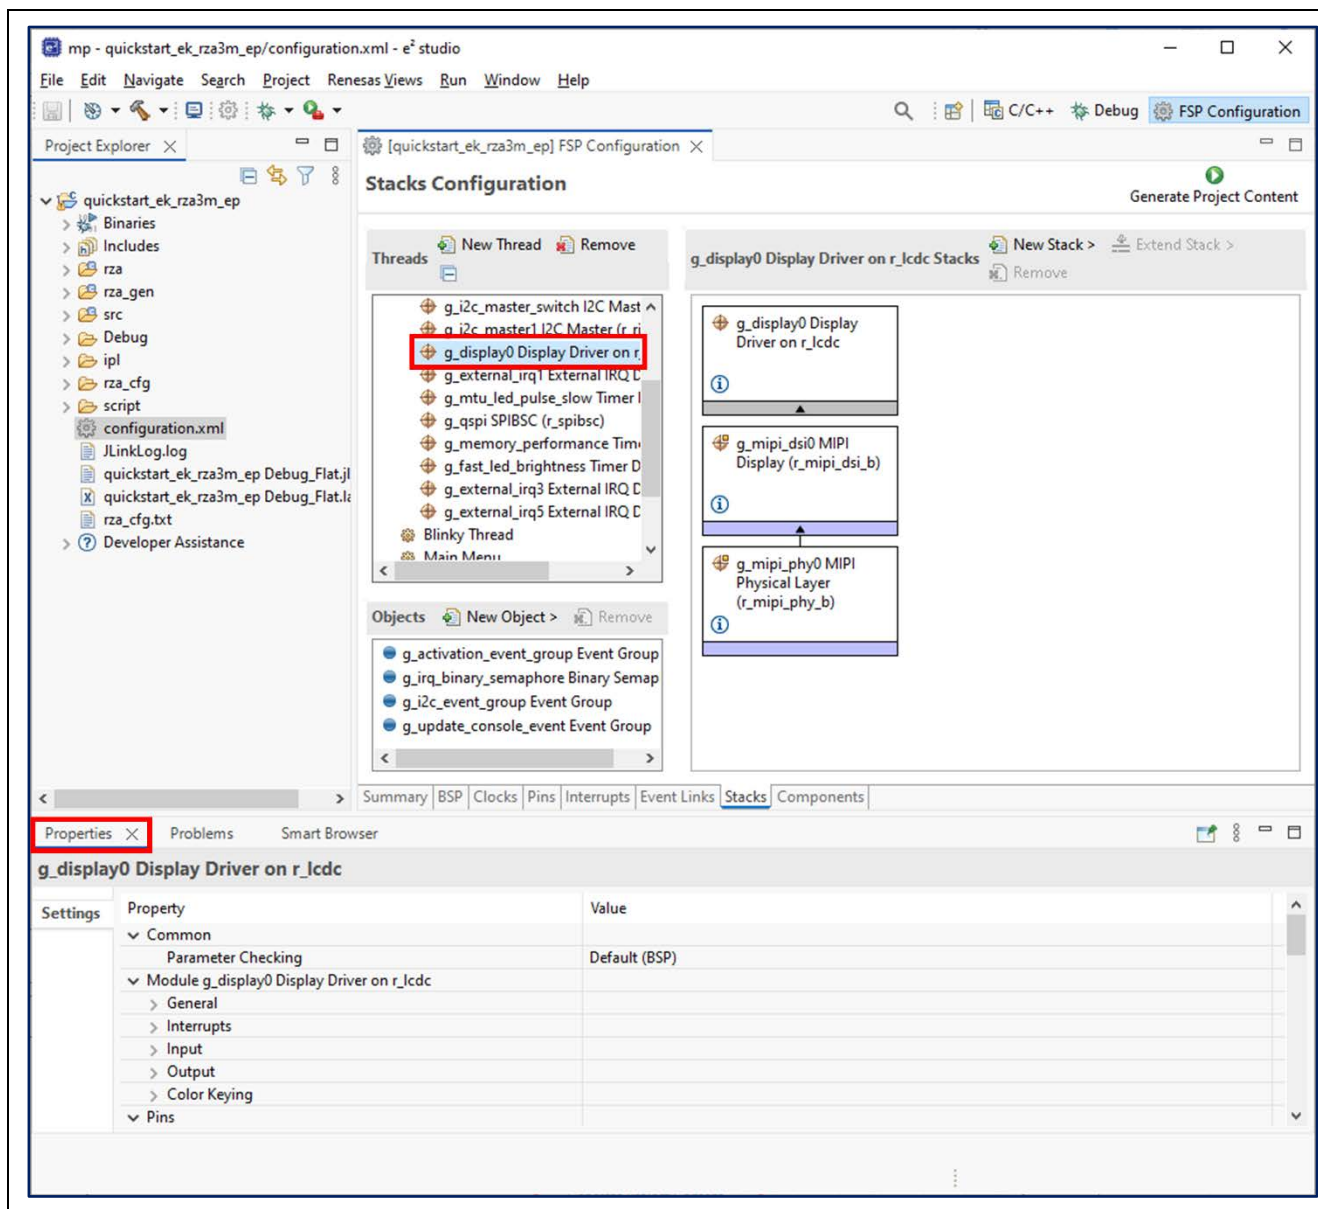

Figure 32. Modifying the Configuration Settings
2. For example, in the **Stacks** tab of the FSP configuration, the user can click to select modules to modify the configuration settings, as required, in the **Properties** tab. Figure 32 illustrates modifying the **Display Driver** configuration.